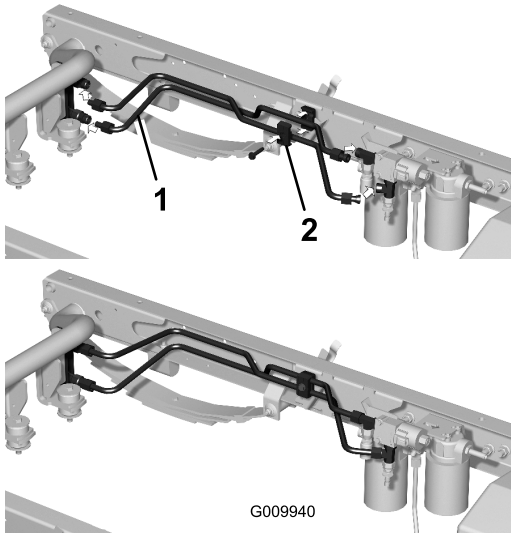

Figure 14
1. Loosely install a hard hydraulic line to the lower quick coupler and rear T fitting on the valve (Figure 14).
2. Loosely install a hard hydraulic line to the upper quick coupler and bottom T fitting on the valve (Figure 14).
3. Secure the hard lines with clamps and a screw (5/16 x 1-1/2 inches), and position the clamps as shown in Figure 14.